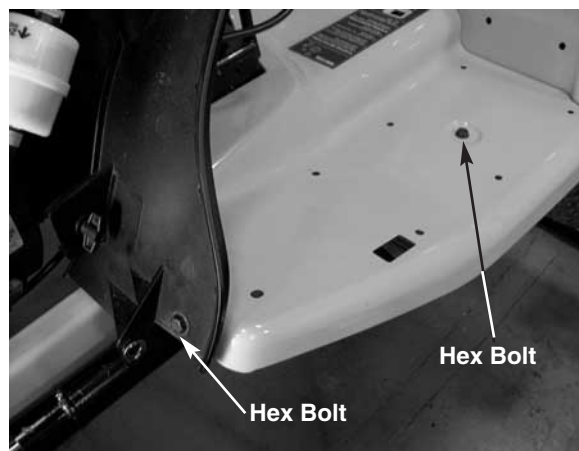

FIGURE 5.
12. Remove all four running board hex bolts from the tractor using a 1/2" socket. See figure 5.